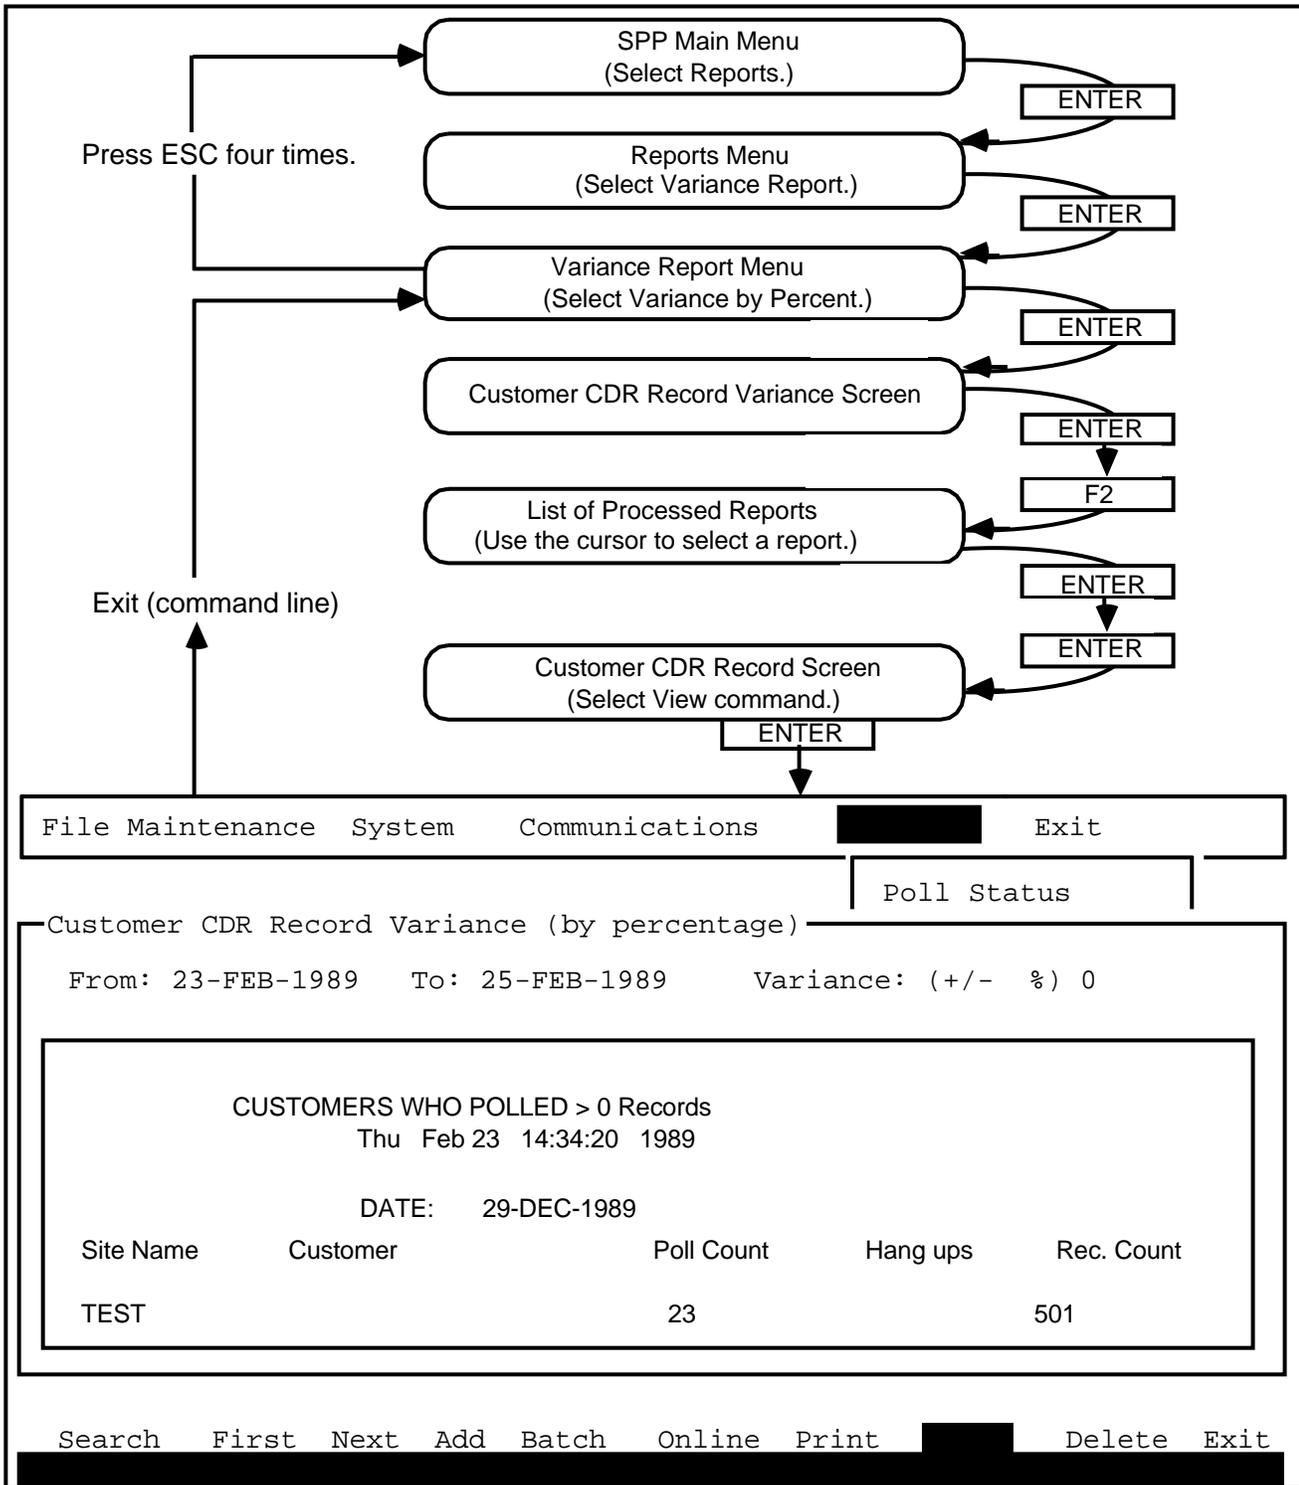

Fig. 6-6
6.15 To select and view processed variance by percent reports (see Fig. 6-6) proceed as follows: